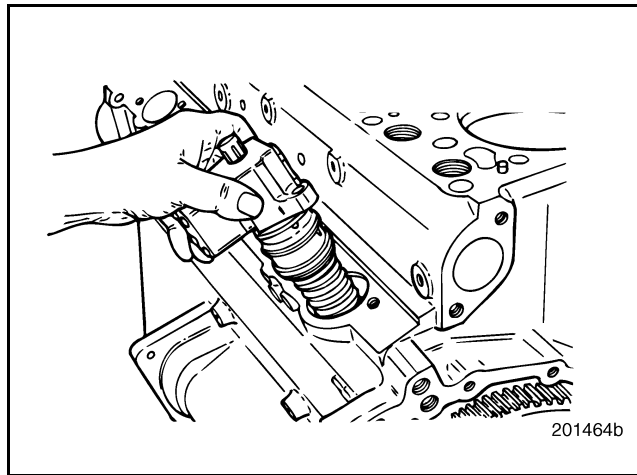

Figure 158 — EUP Removal
5. Remove the outboard EUP screw completely and remove the EUP from the cylinder block. Refer to Figure 158. Place the EUP in a clean area and cover it to prevent entry of dirt and other contaminants.